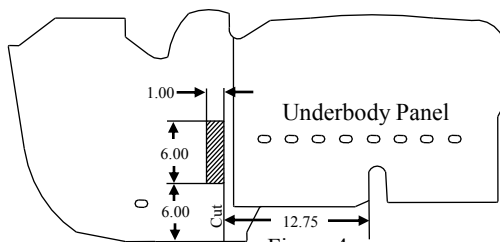

Figure 4
- Trim underbody panel (if present) as shown in Figure 4. The dimensions given are estimates and should be confirmed prior to trimming. After trimming, slide the hitch bracket through the cut in the underbody panel until it is in cut-out region.